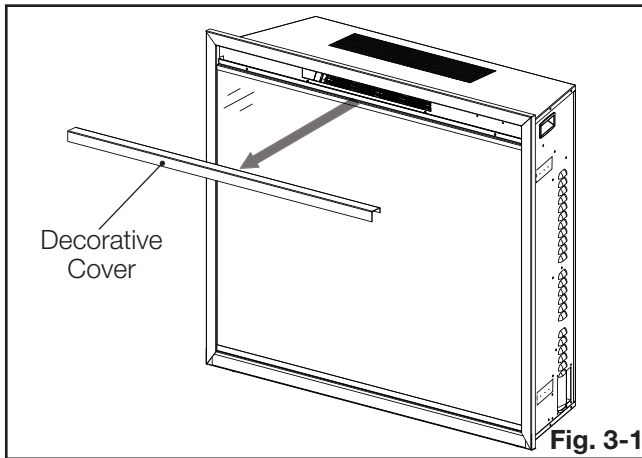

Fig. 3-1
1. Remove the front decorative cover held in place by 2 magnets (**Fig. 3-1**).